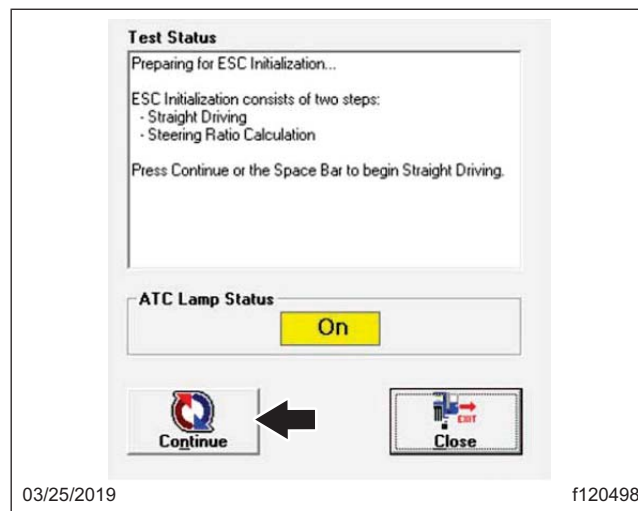

Fig. 8, Test Status, ESC Initialization
- From the pop-up message that appears, press the space bar or select 'Continue' when ready to proceed. See Fig. 8. The automatic traction control (ATC) lamp will start blinking to inform the driver that the ECU is in learning mode.
5. Carefully follow the instructions that appear in the pop-up message. See Fig. 8. The ESC initialization procedure requires the vehicle to be driven. Once the ESC initialization begins, the messages will automatically change as the requirements are met. DO NOT select the 'continue' button again as it may cause the process to fail.